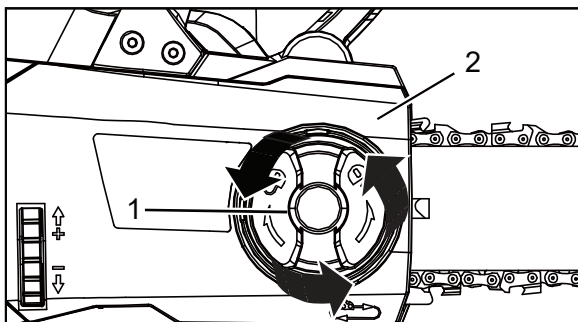

Figure 8 - Remove cover
2. Rotate the side cover lock counterclockwise to remove the cover from the saw’s body (Figure 8).